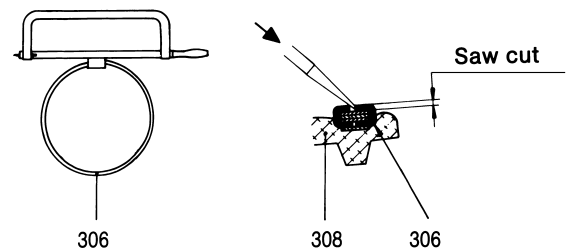

Figure 2: Removal of the joint clamp.
- Remove hexagon nuts (607) and fan-type lock washers (608) as well as hexagon screws (606).
- Withdraw suction casing (505) over the rotor (401). In doing so, see to it that the fine-machined rotor is not damaged.
- Remove gasket for suction casing (501).
- Cut lock at the joint clamp (306) by means of a metal cutting saw, and with a screw driver, press out to both sides. Remove joint clamp (306) from the joint collar (308) (please refer to Figure 2 below).